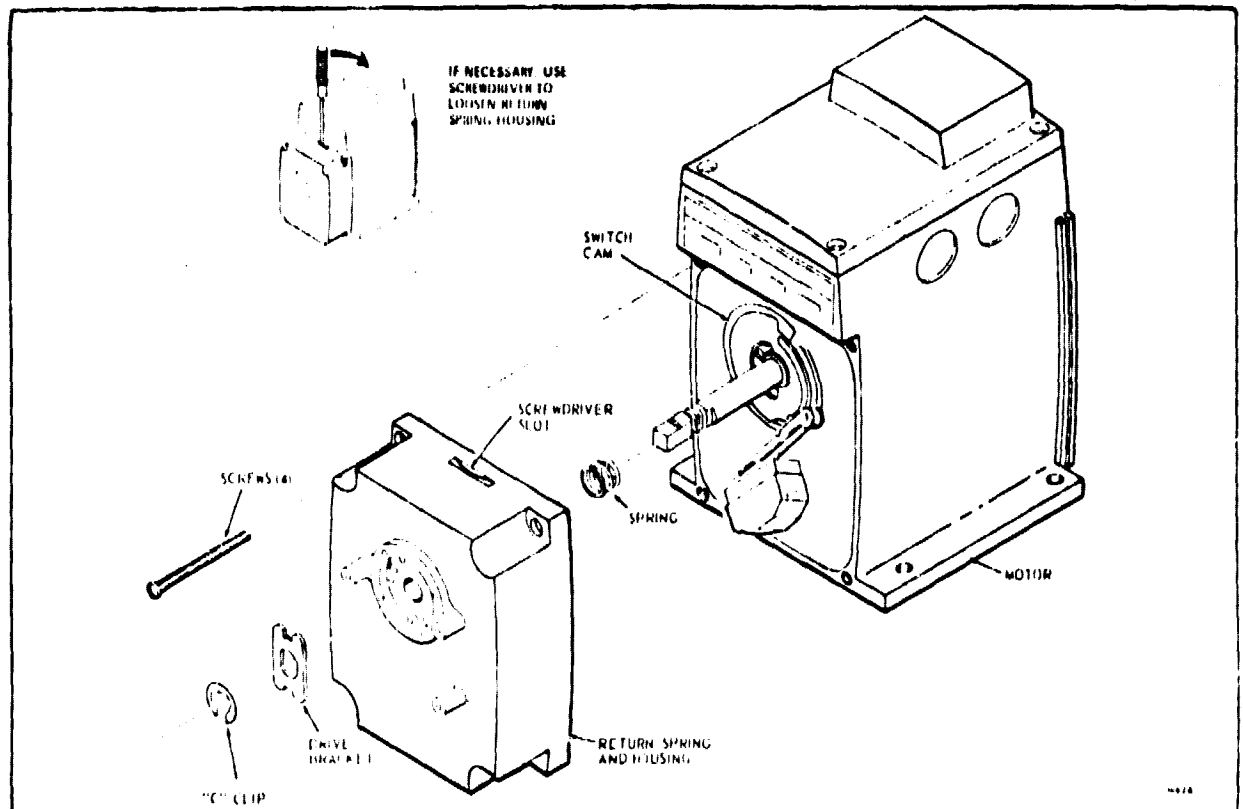

FIG. 18-REMOVING THE RETURN SPRING HOUSING TO ADJUST AUXILIARY SWITCH.
1. Remove the "C" clip holding the drive bracket against the spring hub. Take off the drive bracket. Refer to Fig. 18.